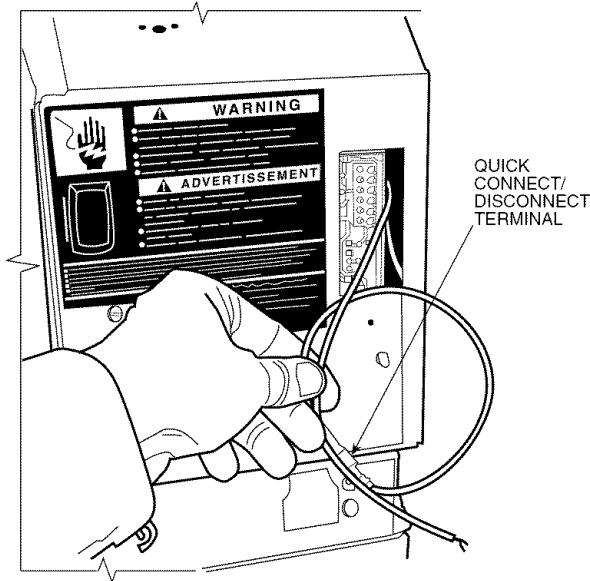

Fig. 8 — Route Second Fan Speed Signal Wire Out of the Control Box
10. The blue wire connected to terminal 3 on the relay assembly is the second fan speed signal wire, for connection to the thermostat. The blue wire has a quick connect/disconnect terminal for easy disconnect and removal of the unit. Route the blue wire out of the control box opening where the terminal access cover was removed. See Fig. 8.